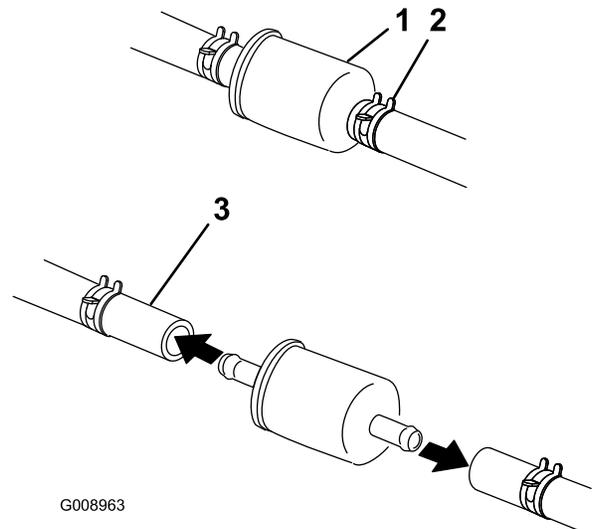

Figure 58
6. Squeeze the ends of the hose clamps together and slide them away from the filter (Figure 58).
8. Install a new filter and move the hose clamps close to the filter (Figure 58).